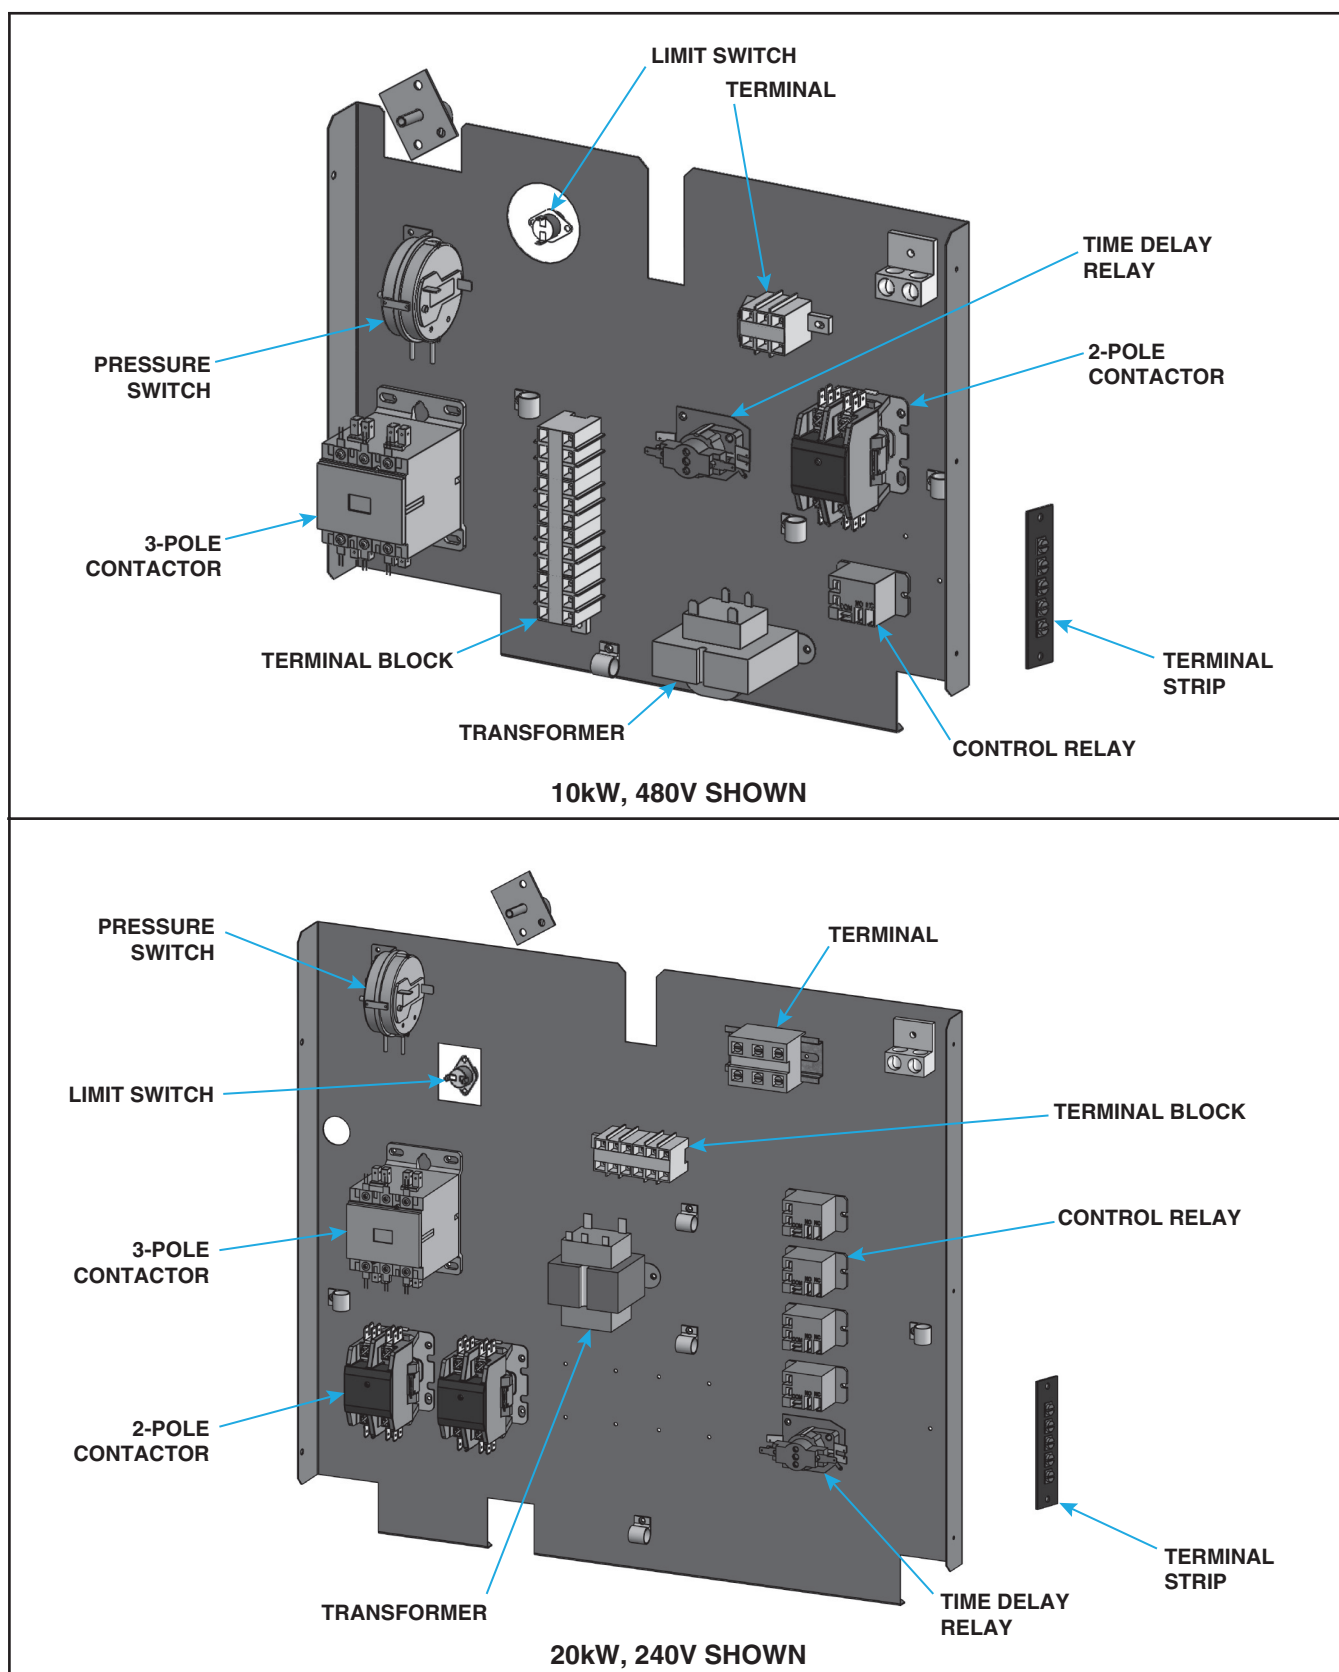
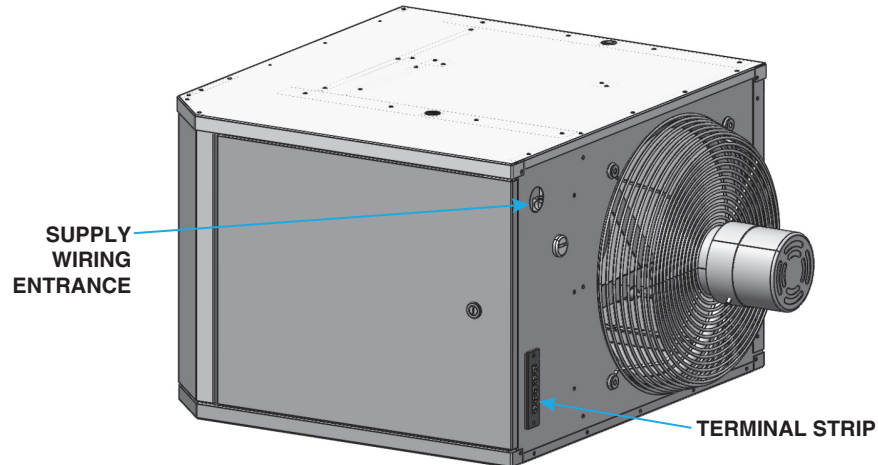

Figure 6. Typical Control Panels
Figure 7. Supply Wiring Entrance and Control Connection Terminal Strip
- (1) Loosen terminal screws T1, T2, and T3 on 3-pole contactor (see Figure 6) terminals.
- (2) Disconnect black wires from T1 and T2 terminals and connect them to T3 terminal.
- (3) Tighten all terminal screws.
- The supply wiring enters as shown in Figure 7 and connects to the terminal block on the control panel shown in Figure 6).
- The terminal strip for 24V control connections is located on the outside of the cabinet at the back of the unit, as shown in Figure 7. The strip has five terminals: C, R, G, W1, and W2.
All units are equipped with an automatic-reset air proving pressure switch (see Figure 6) that senses air pressure provided by fan operation. The switch is factory-set and is non-adjustable. If the setpoint is reached, the switch interrupts the electric supply to the heating elements. This safety device provides protection in the case of fan motor failure or lack of airflow due to a restriction at the inlet or outlet.
All units are equipped with a temperature-activated, automatic-reset high temperature limit switch (see Figure 6). The switch is factory-set and is non-adjustable. If the setpoint is reached, the switch interrupts the electric supply to the heating elements. This safety device provides protection in the case of fan motor failure or lack of airflow due to a restriction at the inlet or outlet.